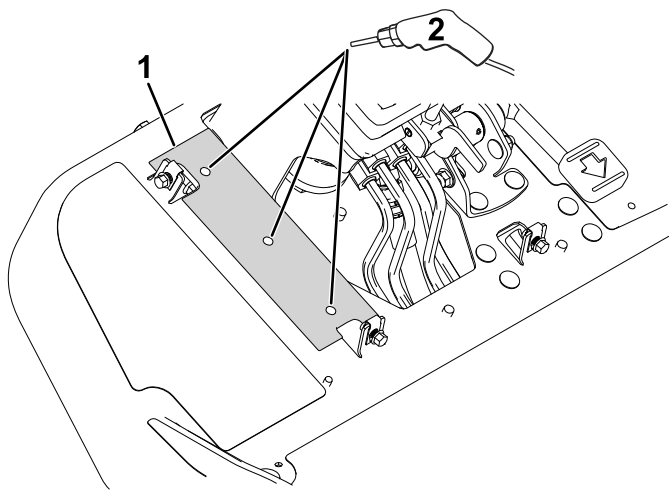

Figure 3
3. Align the stiffener drill template cut-outs to the platform cut-outs as shown in Figure 3.
6. Align the steering-mount bracket to the previously drilled platform holes (shown in Figure 3).